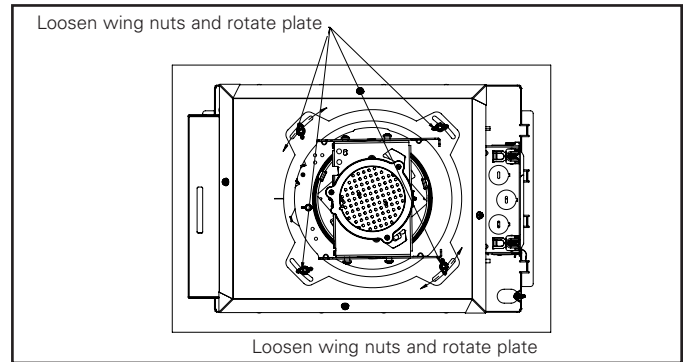

Figure 3.
4. For square apertures, the edges of the collar may be adjusted to align them parallel with room walls. This can be done by reaching into the cutout and loosening the wing nut inside housing as shown in figure 3.